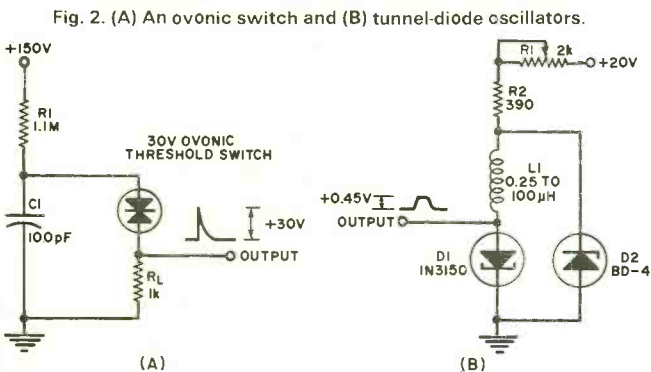

Fig. 2. (A) An ovonic switch and (B) tunnel-diode oscillators.
Fig. 2. "Impedance correlators" (short elements under dipoles) are a feature of this Antenna Corporation of America model. The u.h.f. section in front is shown solid in the illustration.
The u.h.f. part of one *Antenna Corp. of America* model uses this *Winegard* design. Behind it, the v.h.f. sections look simple (Fig. 2). There are two dipole driven elements (nearest the mast), two reflectors (back end), and one straight director. The V-shaped array that is a corner reflector for u.h.f. is also a director for v.h.f.
Fig. 2. (A) Input and output waveforms of a half-wave rectifier with resistive load and (B) relationship of r.m.s. and average values to peak values between one cycle of sine wave and the half-wave rectified voltage across resistive load.